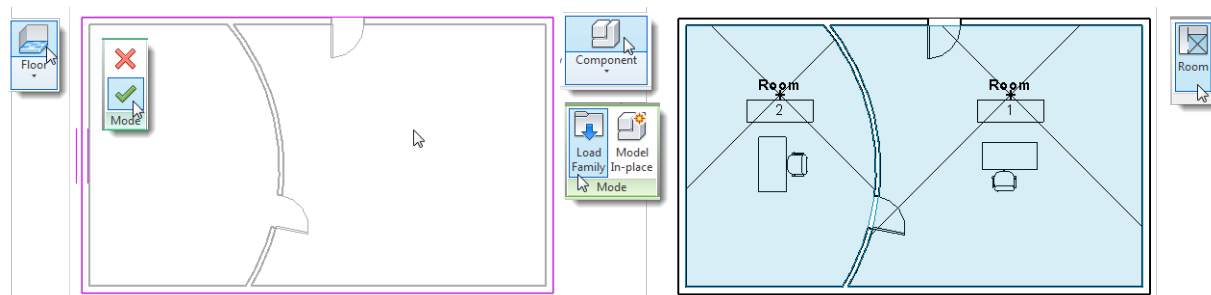

Figure 4 – Add a floor, some furniture and rooms
10. On the Architecture tab, click the Room button. Move the cursor into one of the enclosed spaces and then click to place a room. Repeat in the other space (see Figure 4).